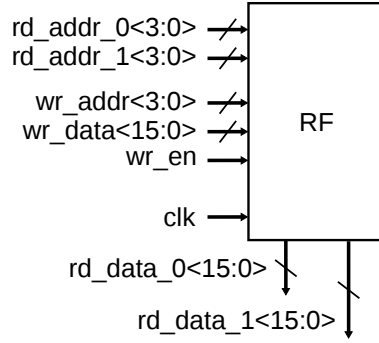

Figure 1: Register file interface
The vast majority of processor architectures utilize at least one small, fast memory module called a *register file* (also called a *scratchpad* in some contexts). In this project, students will build a 16-bit, 13-entry register file with 1 write port and 2 read ports (Figure 1). There is also a Verilog model that is available for reference. Teams are free to choose their implementation (e.g., 16x13 master-slave flip-flops, 16x1 master latches coupled with 16x13 slave latches, 16x13 SRAM array, etc), so long as it is compatible with the functional specification.
a. Create a schematic for the register file in Figure 1, and name the cell **RF**. For sizing and testing, we should keep in mind that the register file outputs will be connected to long wires, with large fanout; hence, approximate the wiring and transistor capacitance with 40fF loads on all outputs. In addition, buffer all inputs with a schematic-level buffer composed of two inverters, both of size 0.4um/0.3um (Remember: inverter sizing is written as W_pmos/W_nmos). The measurements below should be taken with the 40fF loads and input buffers, but remember that *submitted netlists should always be unloaded and unbuffered*.